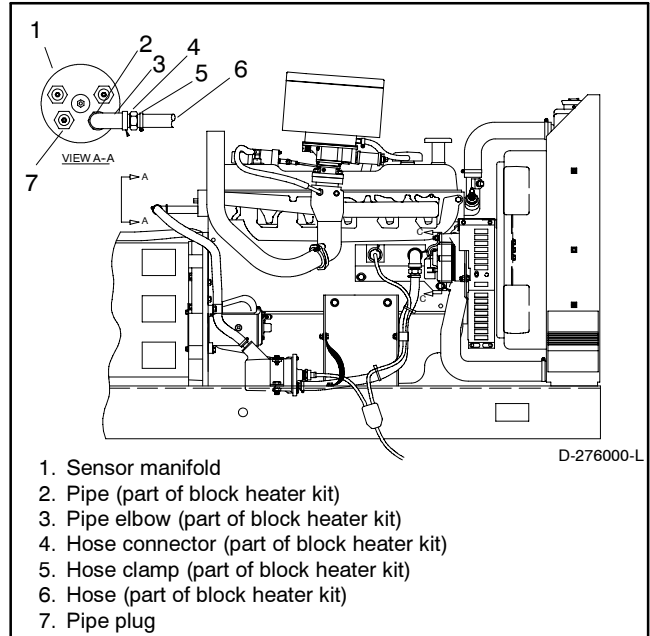

Figure 2 Coolant Temperature Sender Location (shown with block heater kit components)
The sensor manifold is at the back of the engine block. See Figure 2.
- 2.5 **Block heater models only.** Loosen the hose clamp and disconnect the hose from the hose fitting at the sensor manifold. See Figure 2.
- 3.5 **Block heater models.** Refer to Figure 2 and items 2–6 when replacing the existing parts.